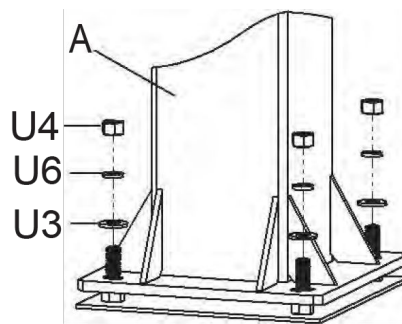

FIGURE 1B
- Remove the Padding from Main Post (A). Place the Main Post (A) over the J-Bolts. Slide a 16mm Thick Washer (U3), a Lock washer M16 (U6) and thread a 16mm Hex Nut (U4) to each J-Bolt. Tighten the nuts only a few turns onto the J-Bolts as shown in FIGURE 1B.
- If the Main Post (A) is not exactly vertical, adjust the 16mm J-Bolt Hex Nuts (U4) located under the Post Base. Tighten all of the Hex Nuts (U4) above Post Base when Main Post (A) is vertical.